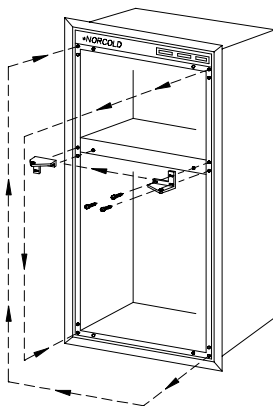

Figure 15
5. Remove the middle hinge bracket by using the #2 Phillips screwdriver and taking out the three screws holding it in place. Next, remove the three screws on the opposite side corresponding to the center hinge location. Relocate them in the holes just exposed by the removal of the hinge bracket. Attach the hinge bracket to the refrigerator on the opposite side. Do not tighten screws completely. (See Figure 15)